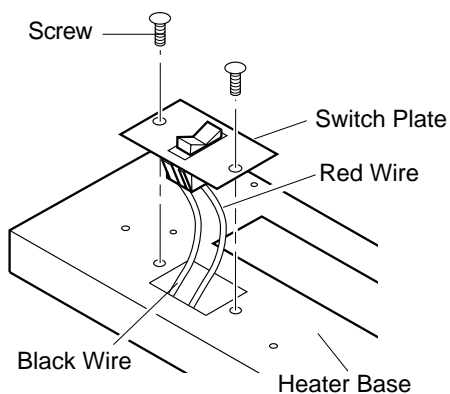

Figure 27 - Switch Plate and Wiring Harness
3. Remove switch plate (see Figure 27). Discard switch plate after removing. Save the screws.